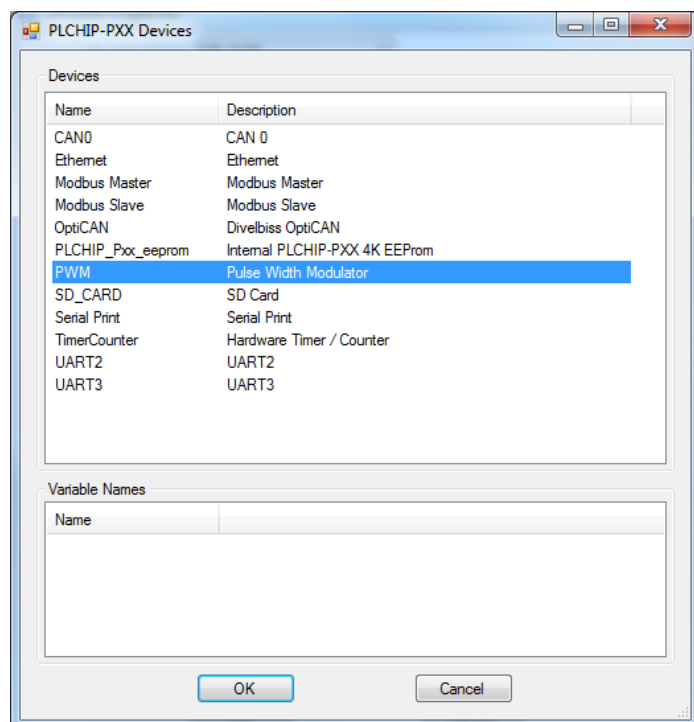

Figure 2-8 - Adding PWM Channels
3. Click the **ADD DEVICE** button. The *PLCHIP-PXX Devices* window will open. Locate PWM in the Devices pane of this window. Refer to Figure 2-8.